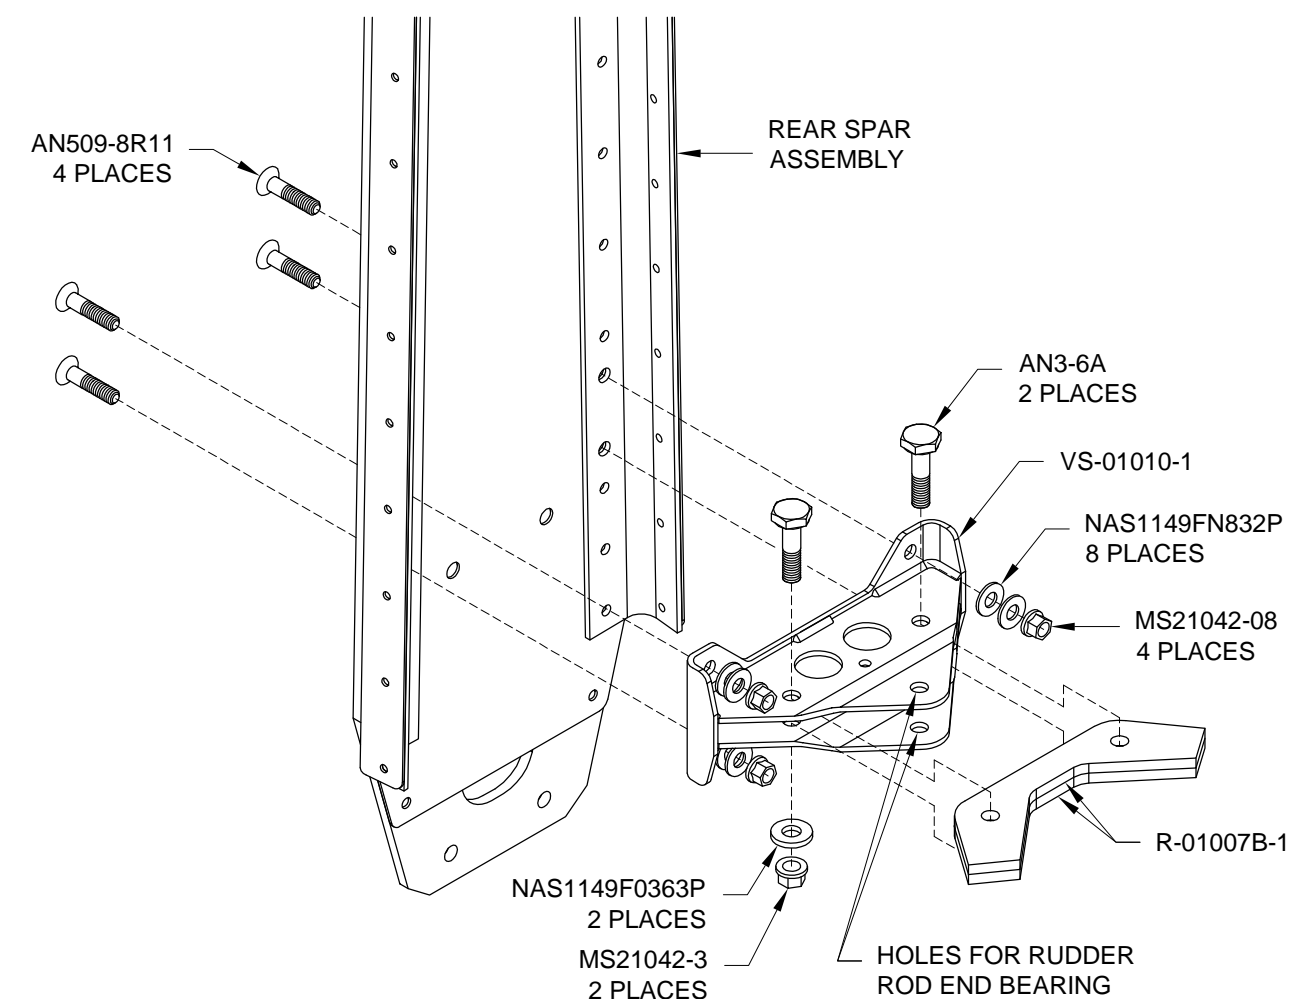

FIGURE 2: ATTACHING THE BOTTOM HINGE BRACKET AND RUDDER STOPS
Step 2: Use a #12 drill bit to clean the powder coating from the three sets of #12 holes in the **VS-01010-1** Bottom Rudder Hinge Bracket. These holes are used to bolt on the R-01007B-1 Rudder Stops and the bottom rod end bearing of the rudder. See Figure 2.
Step 3: Heavily deburr (and straighten if necessary) the two R-01007B-1 Rudder Stops, then bolt them in the **VS-01010-1** Bottom Rudder Hinge Bracket as shown in Figure 2.
Step 10: Attach the **VS-01010-1** Bottom Rudder Hinge Bracket to the rear spar as shown on Page 6-5, Figure 2.